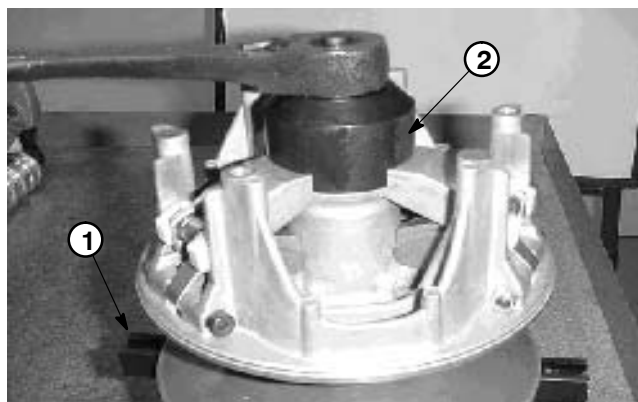

Figure 10
2. Use two 1/4-20 X 1" cap screws to secure the clutch holding bar (see Special Tools) to the drive clutch (Fig. 10).
5. Using spider removal spanner tool (see Special Tools), remove spider from the fixed sheave post (Fig. 10).